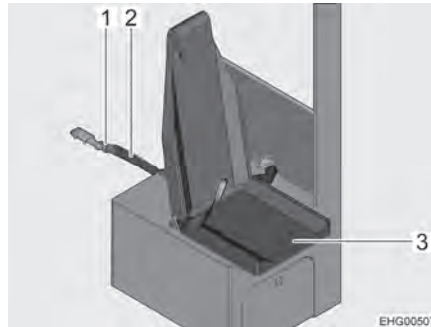

Fig. 18 Securing the attachable seat
- Insert the retaining belt (Fig. 18,2) into the belt lock (Fig. 18,1) on the B column.
- Fold down the seat (Fig. 18,3).